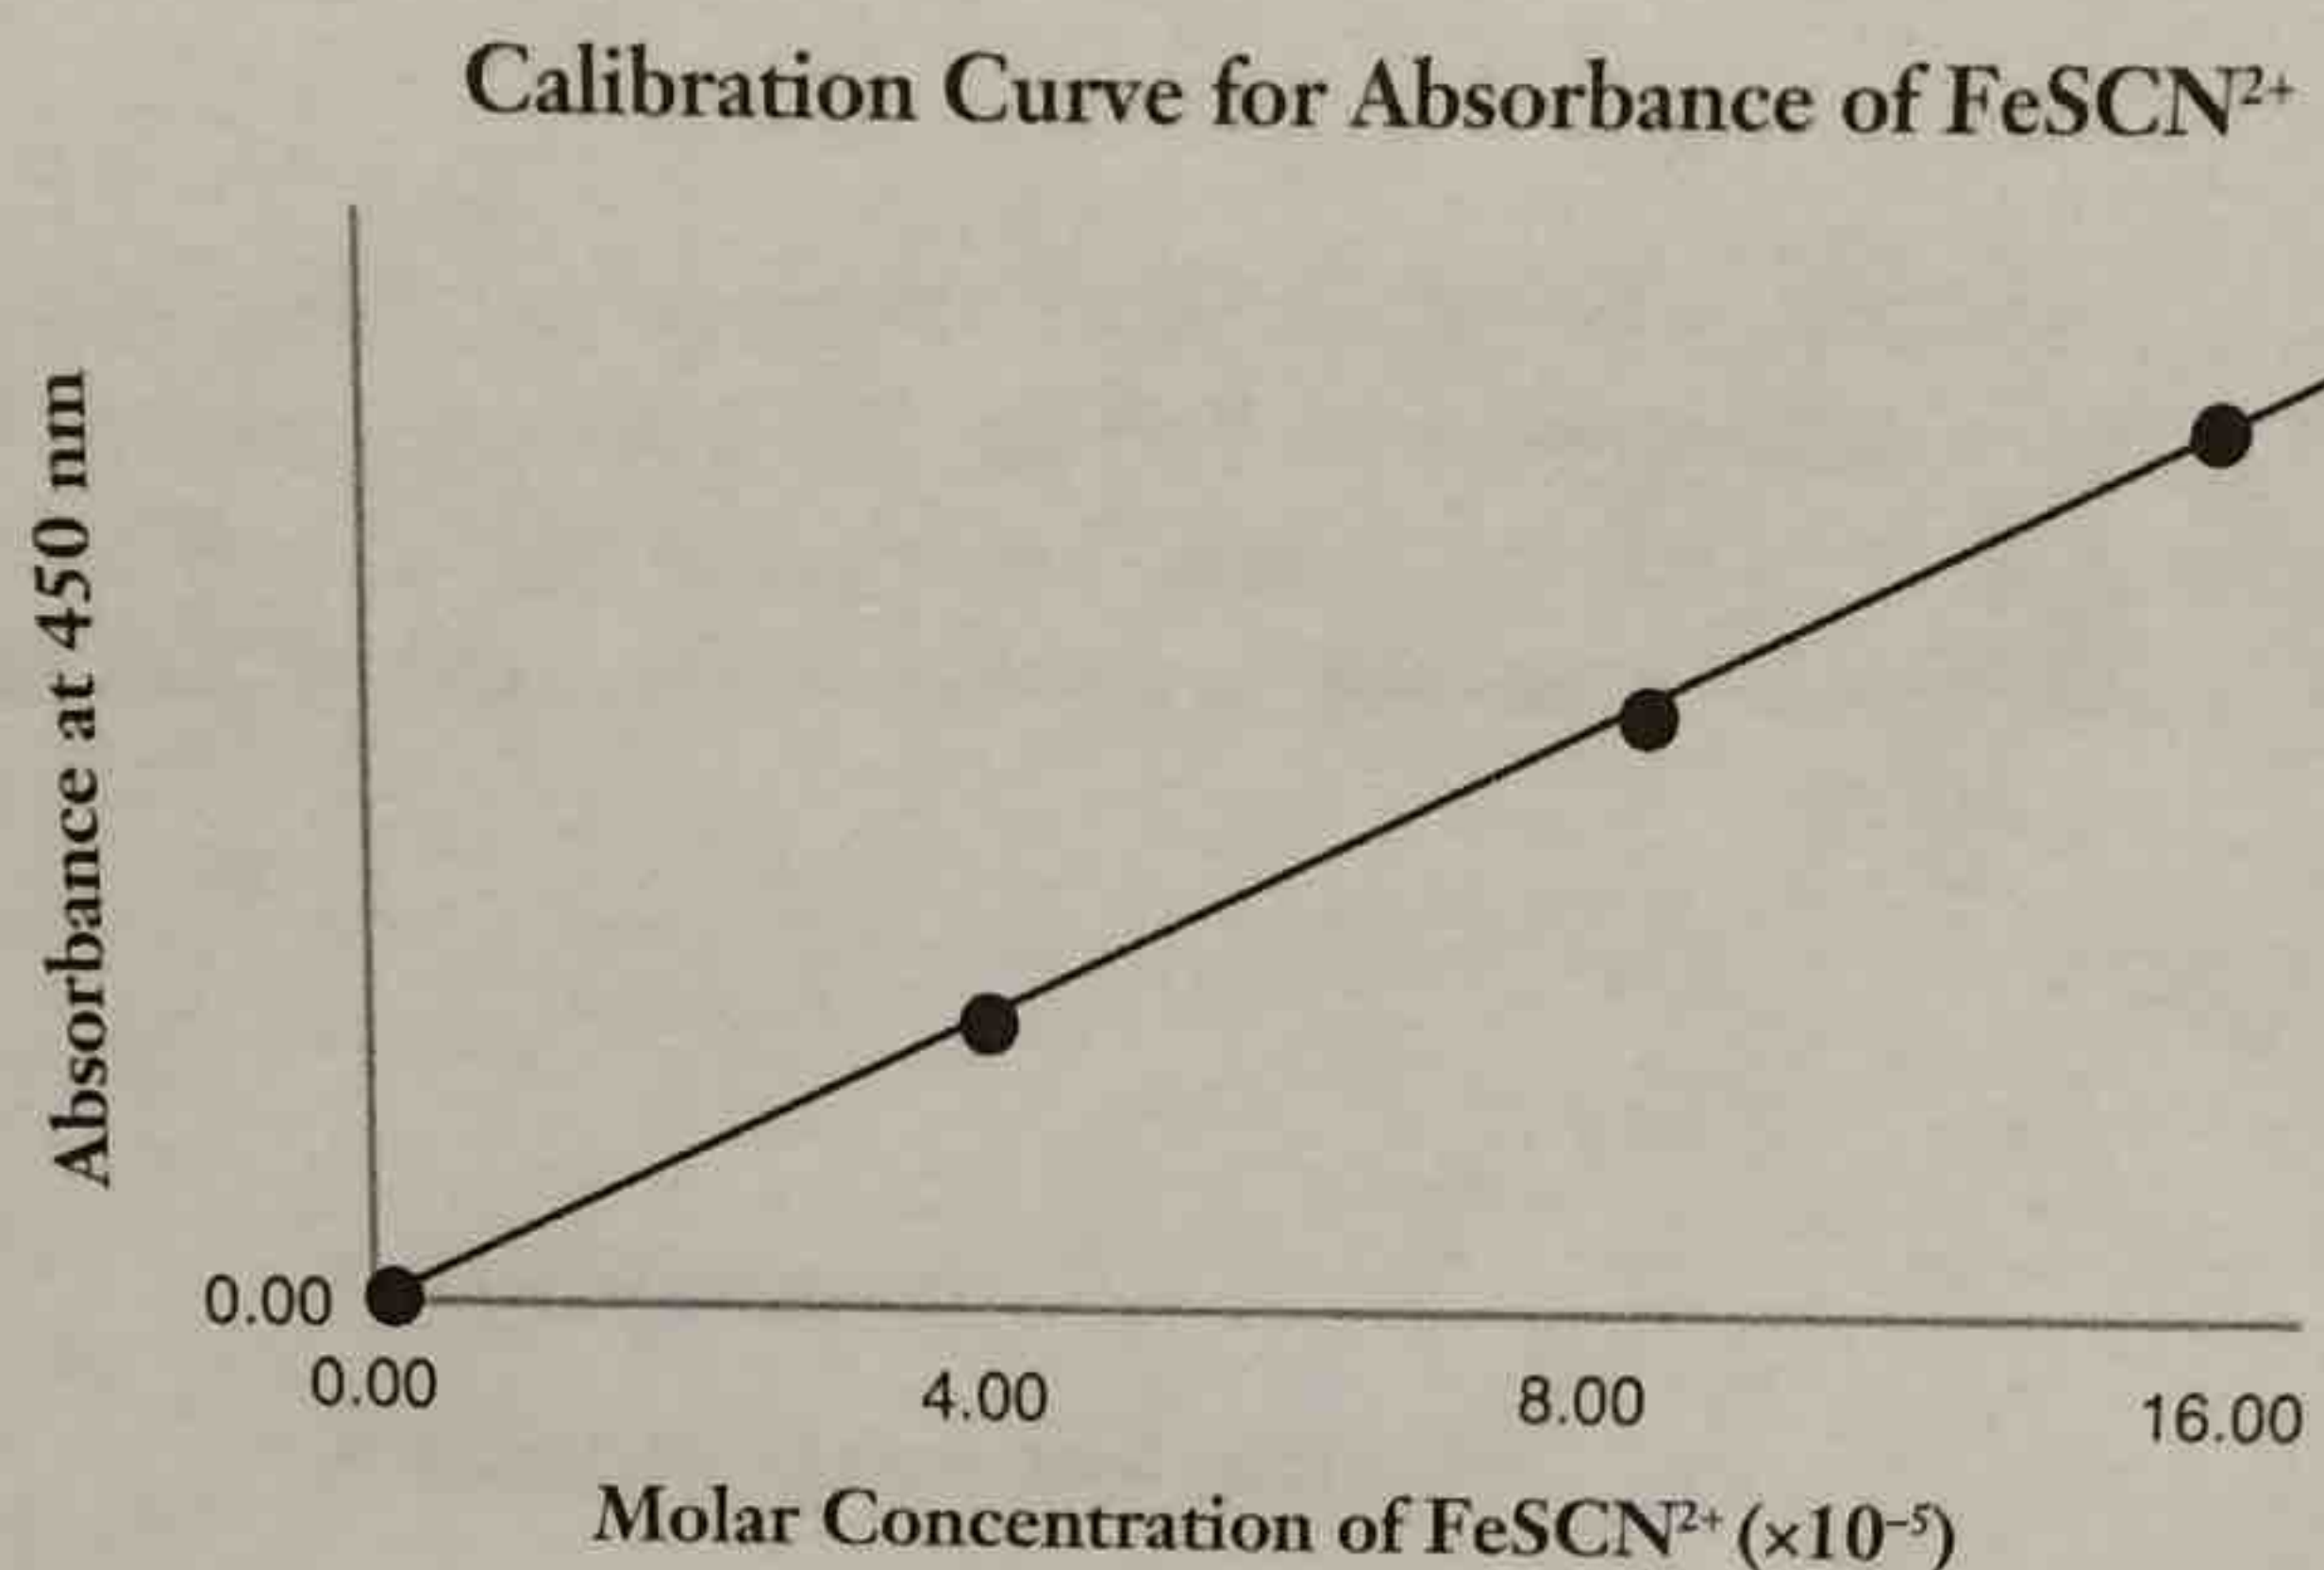

Figure 1.
- On the previous page, plot the molar concentration of  $FeSCN^{2+}$  versus absorbance as shown in Figure 1, and draw the best-fitting straight line through the data points. Include the origin (zero absorbance for zero concentration) as a valid point.